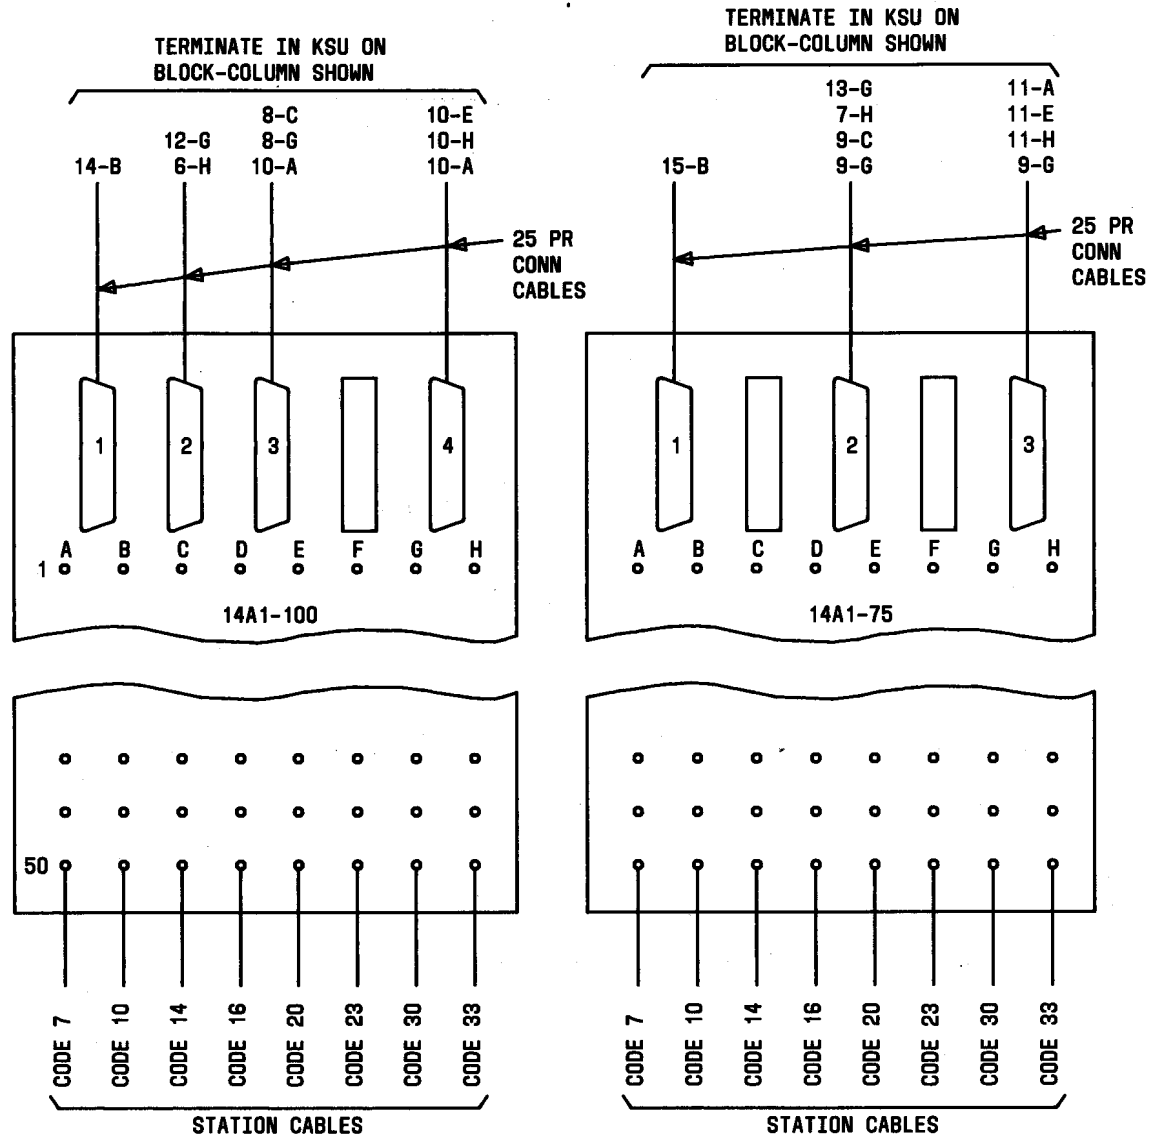

Fig. 19—Example of Satellite Wiring Using 14A1-Type Terminal Blocks
3.17 For the purpose of illustration, assume a satellite made up of station codes 7, 10, 14, 16, 20, 23, 30, and 33. One 14A1-100 terminal block will be required for the first binder of the station cables and one 14A1-75 for the second binder. Three stations (7, 10, 14) are in lamp group A and five stations (16, 20, 23, 30, 33) are in lamp group B, requiring terminations and the placing of the bridging clips for a 3/5 combination as shown in Fig. 16. The station cables are terminated so that the three stations of group A appear on columns A, B, and C (codes 7, 10, 14, respectively), and the five stations of group B are on columns D, E, F, G, and H (codes 16, 20, 23, 30, 33, respectively) as shown in Fig. 19.
3.18 Connector cables are plugged into the connectors of the terminal blocks and routed to the KSU. The cables are terminated in the KSU as shown in Fig. 17 and 18. For this example, cable No. 1 from the 14A1-100 is terminated where the cable for the station appearing on column H of the terminal block (code 33) would be terminated if home-run, that is, block 14, column B. Cable No. 2 provides the additional lamp and lamp ground leads plus the individual code leads for the stations on columns G and A of the 14A1-100 (codes 30 and 7), so it is terminated on block 12, column G, and block 6, column H. In addition, the four A1 leads can be obtained on any of the spare terminations of the satellite stations. Cables 3 and 4 are terminated in a like manner on the designated blocks and columns. The three cables from the 14A1-75 are also terminated in the KSU on the blocks and columns shown in Fig. 19 and provide access to the second binder leads plus the additional lamp and lamp ground leads.